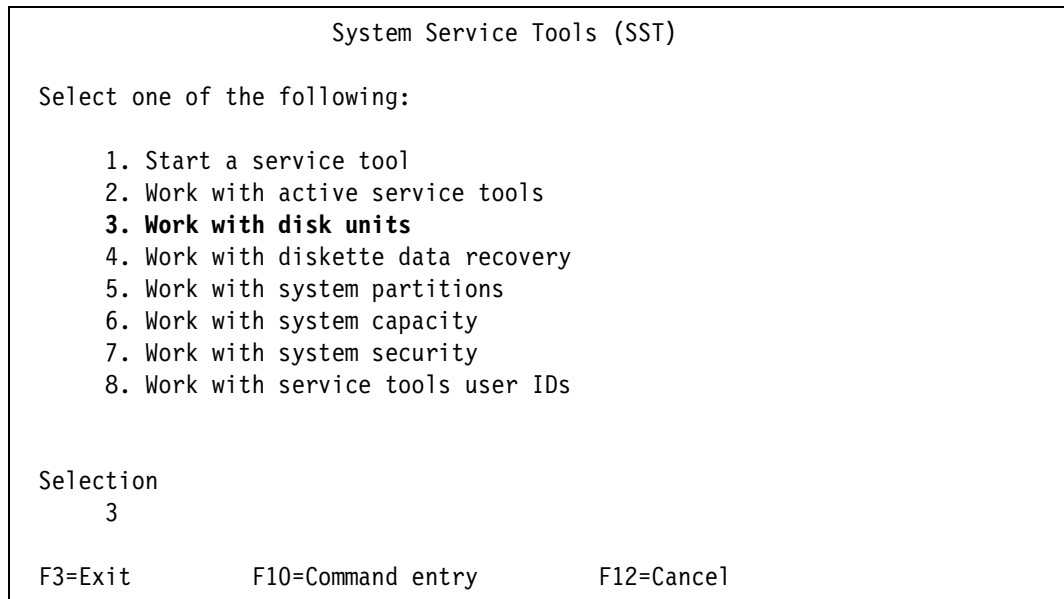

Figure 11-7 System Service Tools menu
2. Select option 3, Work with disk units (Figure 11-7).